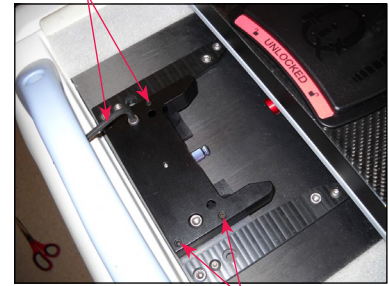

Fig. 69
- b. Adjust the height of the Mounting Block using the (4) Elevation Set Screws (found on the mounting block) using the  $\frac{1}{8}$  in. Allen Wrench (provided) (Fig. 69).